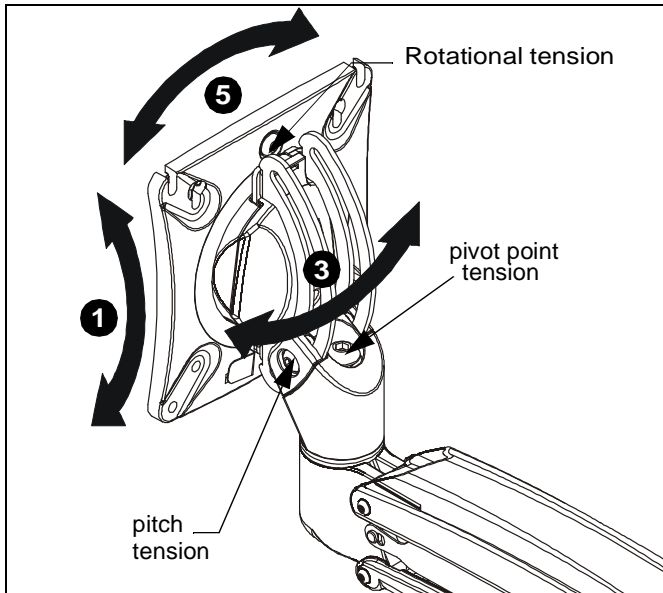

Figure 17
1. Adjust pitch to desired tilt position. (See Figure 17)
2. Adjust pitch tension screw to change the adjustment tension. (See Figure 17)
3. Adjust pivot position as desired. (See Figure 17)
4. Use 3/16" hex key (P) to adjust pivot point tension screws to change pivot adjustment tension. (See Figure 17)
5. The monitor may be adjusted 90 degrees in either direction in order to provide a portrait view of the monitor. (See Figure 17)
6. Use 3/16" hex key (P) to adjust rotational adjustment screw to adjust rotational tension. (See Figure 17)